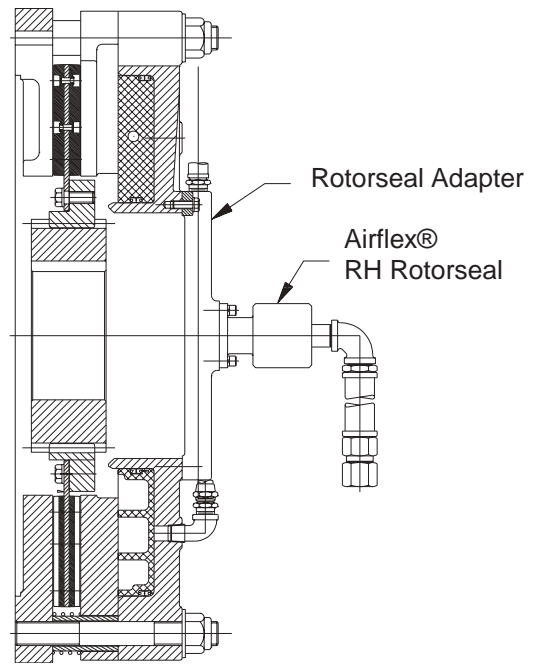

Fig. 3
- 2.1.2 When used as a clutch, a means of connecting the air piping to element is necessary. Figures 3 and 4 show DC elements with rotor seal adapters.